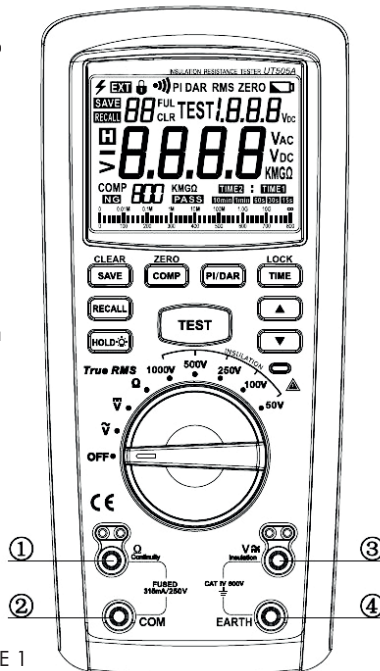

FIGURE 1
V. External structure (See Figure 1)